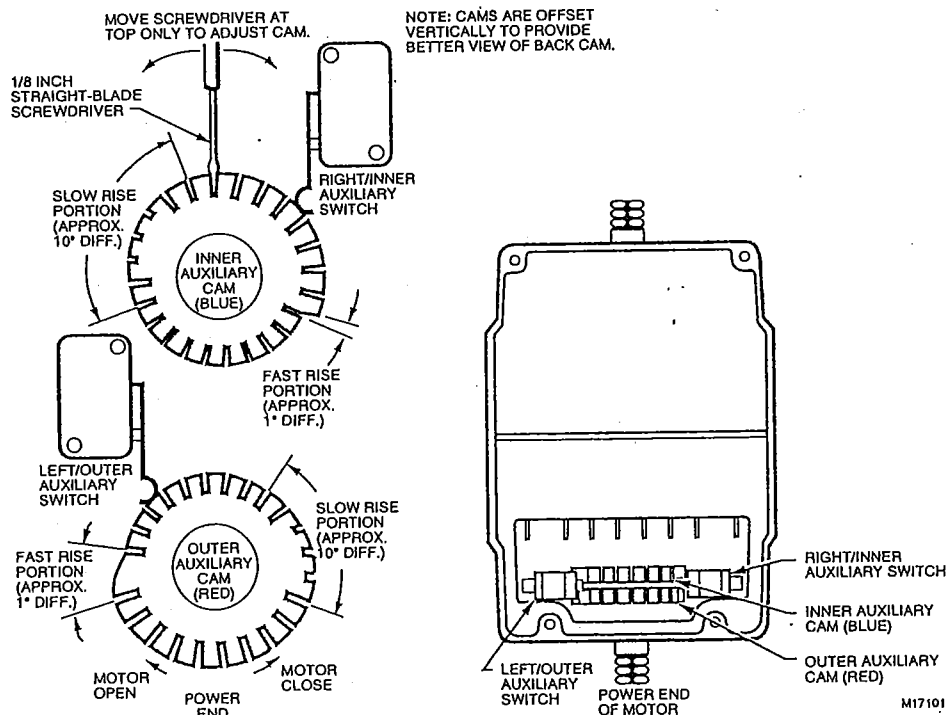

Fig. 10. Auxiliary switch adjustment.
Motors with factory added auxiliary switches are shipped in the closed position (fully counterclockwise, as viewed from the motor power end) with auxiliary cams set to actuate switches 30° from the closed position and to provide 1° degree differential. With the motor in the closed (fully counterclockwise) position, the auxiliary switch breaks contacts R-B. See Fig. 10 for auxiliary switch wiring.
1. Insert 1/8 in. screwdriver blade into a slot on cam and move the screwdriver top as far as possible in the required direction. See Fig. 10.